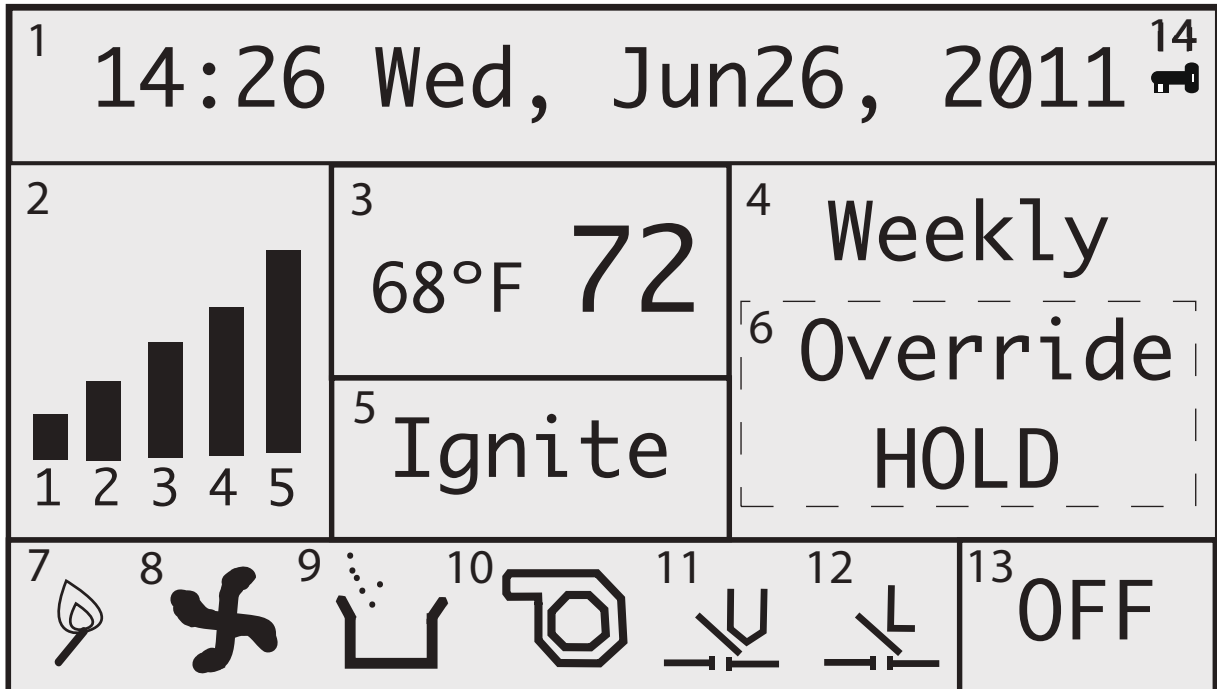

Figure 19: Main Operation Controller Screen Display
When the stove turns on, the ignition indicator and the exhaust blower indicator will appear on the screen (7 and 8, Fig. 19).
“Ignite” will also appear in the work stage box (5, Fig. 19) on the screen. After approximately four seconds, the vacuum switch indicator (11, Fig. 19) will appear. Also note that the hopper lid open indicator (limit indicator) (12, Fig. 19) will appear anytime the stove’s hopper lid is properly shut and sealed.
The stove exhaust blower will continue to run for three minutes, then the auger indicator (9, Fig. 19) will flash on the screen, indicating that the auger is feeding pellets into the stove. Within three to five minutes of the auger feeding pellets, a fire should ignite. Once a fire is lit, the work stage box on the screen will read “Heating Room”.
To increase or decrease the “call to” temperature, use the **SCROLL UP** or **SCROLL DOWN** button (8 and 10, Fig. 17). The current room temperature will be displayed in the temperature display box (3, Fig. 19) on the screen, as will the “call to” temperature.
- With a schedule set, make sure that the main display screen on the controller reads **"WEEKLY"** (for operating in the Weekly Mode) and that the unit is turned on. The schedule will not take effect unless the unit is turned on in the Weekly Mode. (13, Fig. 19).